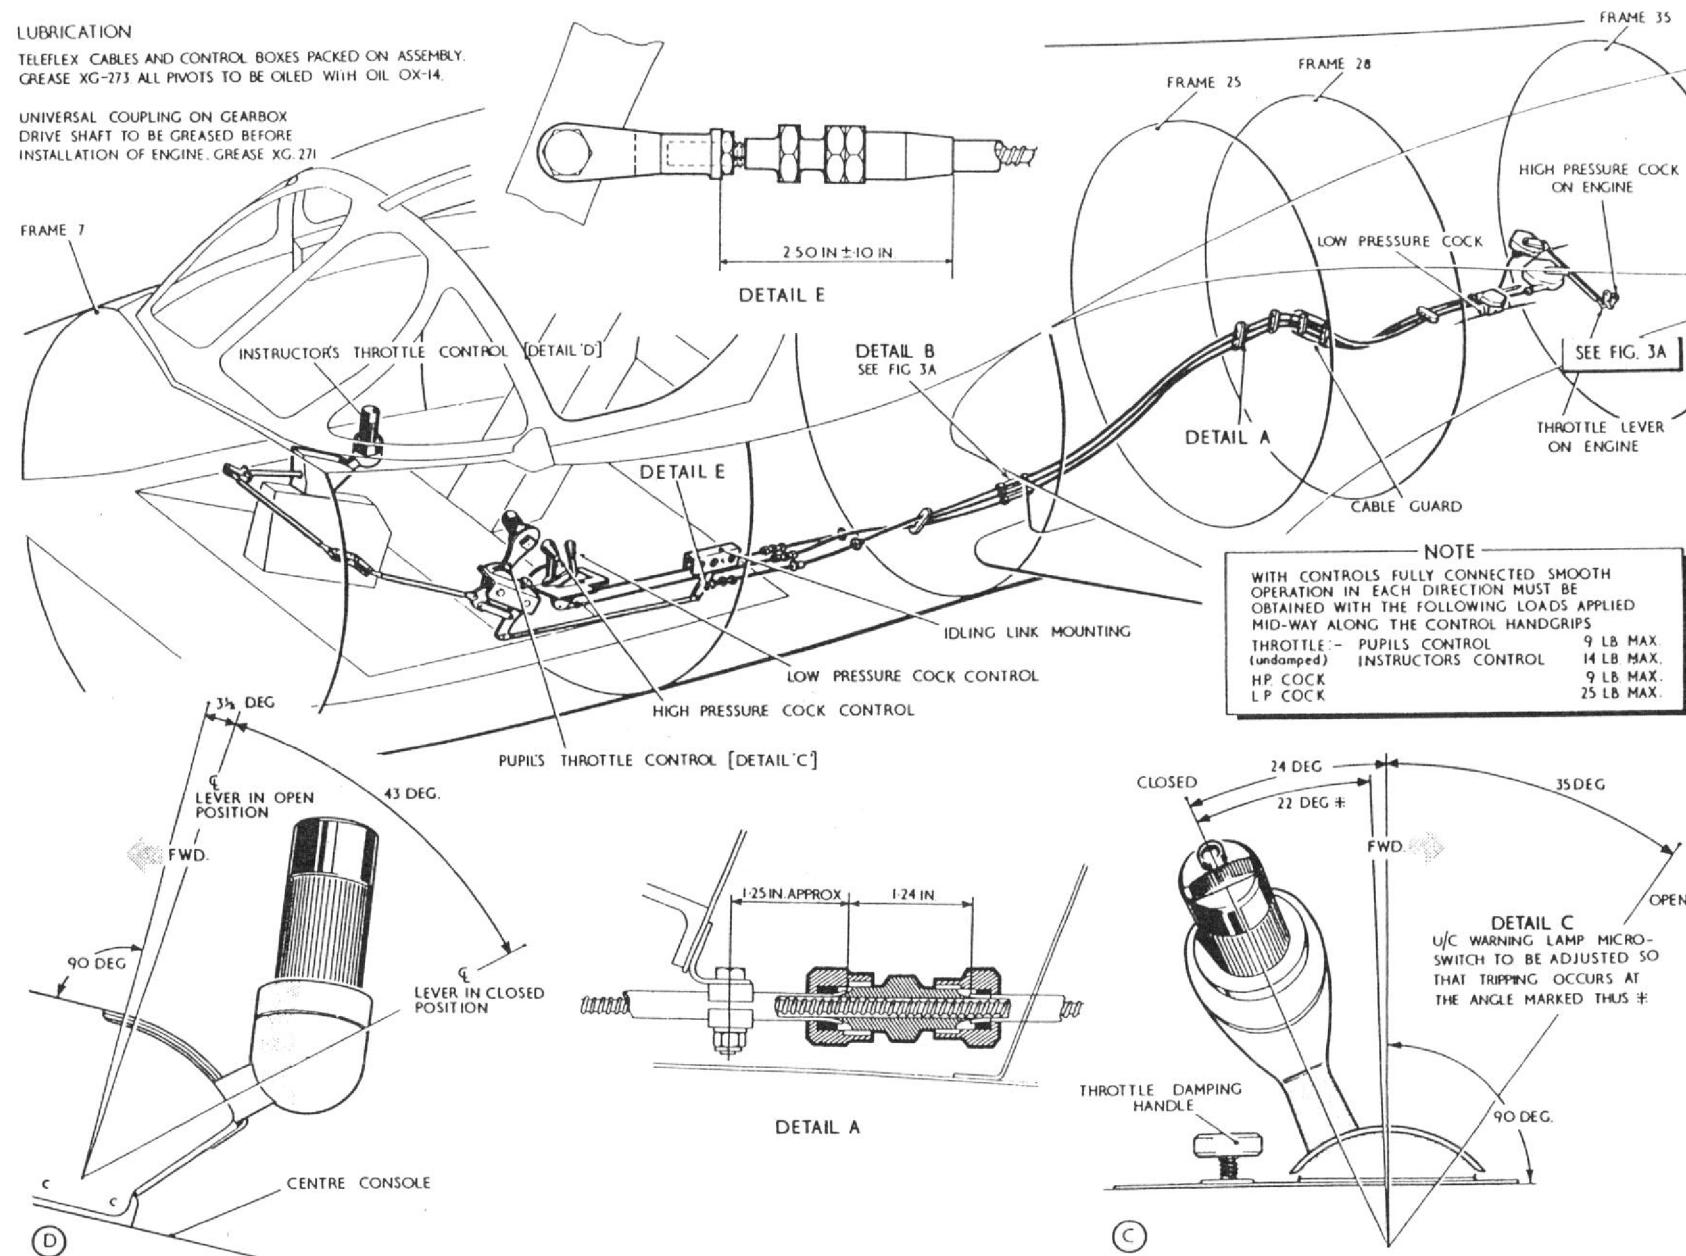

Fig. 3 Engine controls (I)
Engine controls (fig. 3 and 3A)
10. To facilitate assembly in the aircraft the connecting rod between the port throttle lever and the idling link (fig.3) is manufactured in two sections. These are connected by an internal liner which is riveted to one section and during assembly the other section is secured to the liner by two bolts. To ensure adequate clearance between the bolts and the lightening holes in frame 11, through which the rod is routed, it is essential that the section of the rod in which the bolts are mounted is connected to the idling link and that the heads of the two bolts are outboard.
ing when being coupled to the aircraft linkage to ensure full control travel. It may also be found necessary to adjust the control rod between the actuating lever of the top temperature control actuator and the bell crank lever but it is important, after such adjustment, that a check be made to ensure that a clearance of 0.125 in. is present in the recess between the bell crank lever and the throttle lever arm when the throttle is fully closed. On completion of the adjustments ensure that all controls are in safety, correctly locked and that they are free from fouling throughout their full range of movement. Lubrication details and control lever settings are given in fig. 3 and 3A.
necessary (Sect. 2, Chap. 2). Lubrication of the engine controls and gearbox universal shaft couplings are detailed in fig. 3, additional information on the gearbox drive universal couplings being given in para. 13.